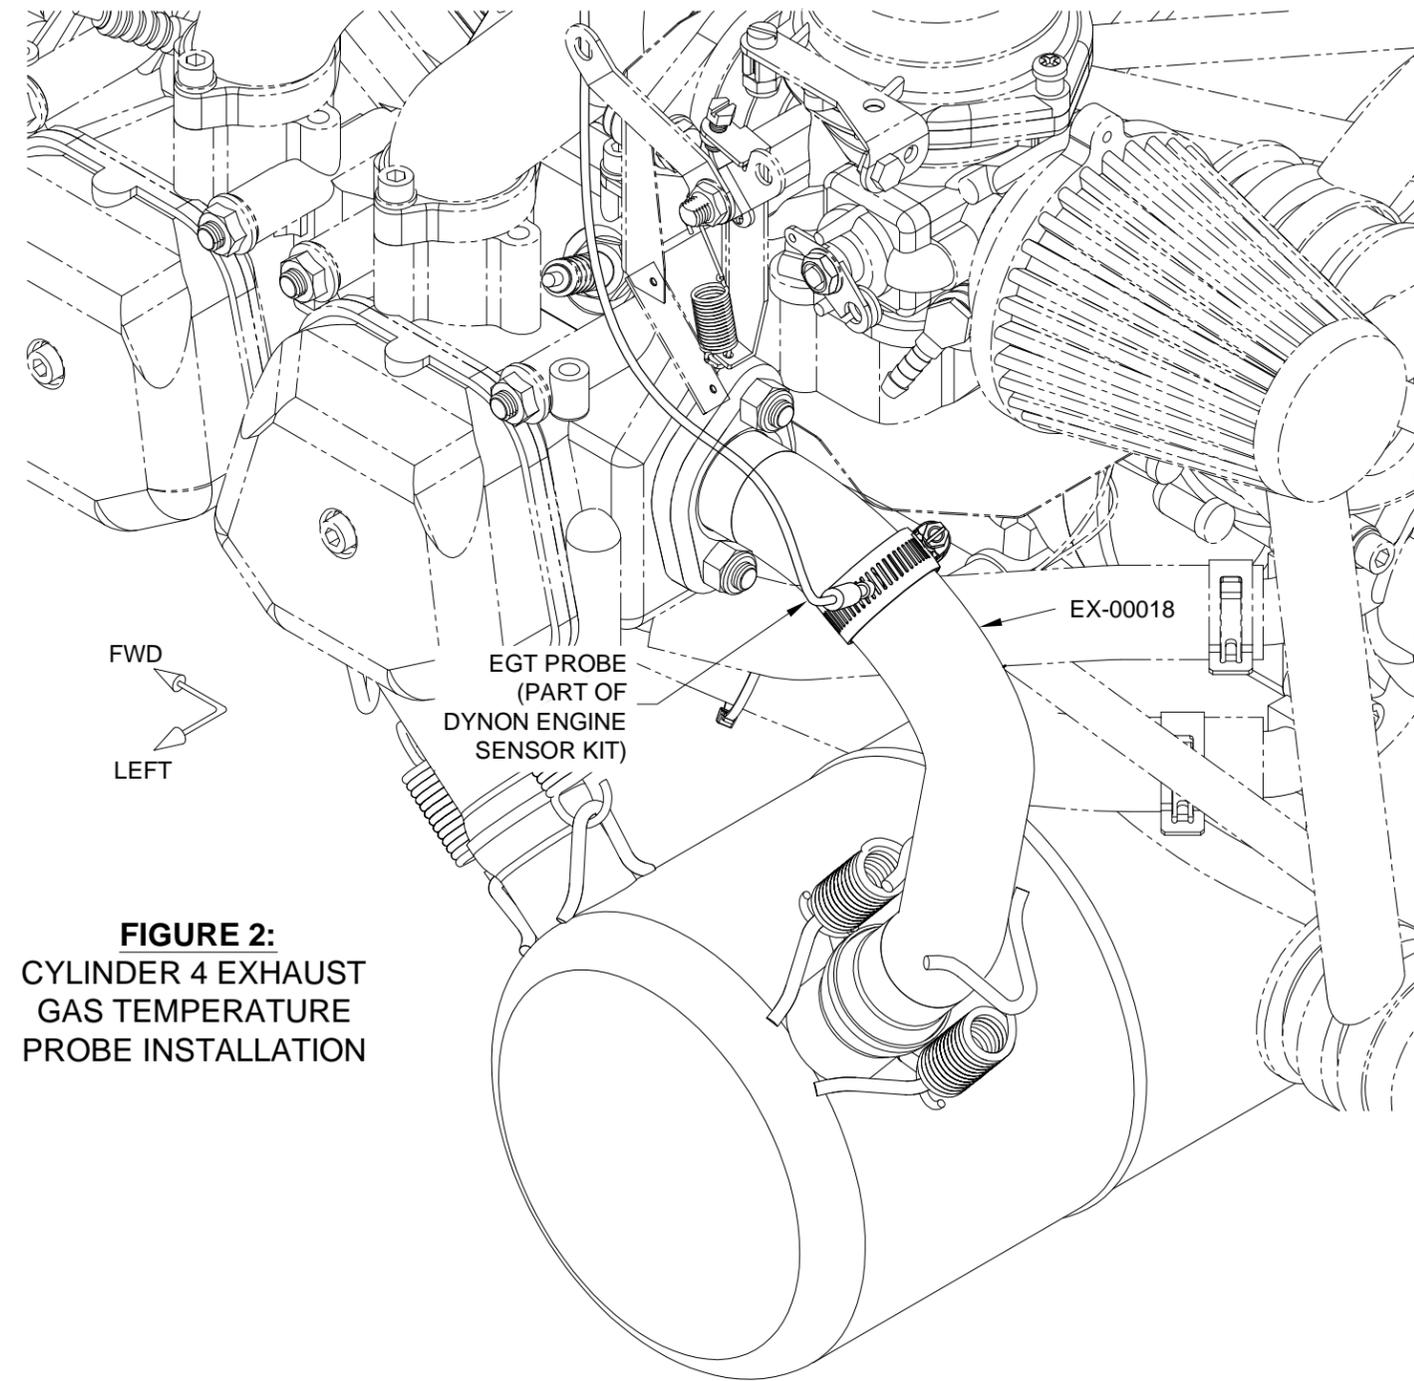

FIGURE 2:
Step 2: Install the remaining EGT probe into the EX-00018 Cylinder #4 Exhaust as shown in Figure 2.
The EGT probe wire is routed from the exhaust along the left carburetor fuel hose (not shown in Figure 2) upward and inboard to the top of the engine where it then follows the gascolator to fuel pump hose aft and down to the point where its spade connectors are mated to the EGT-L wires coming from the aft side of the firewall.